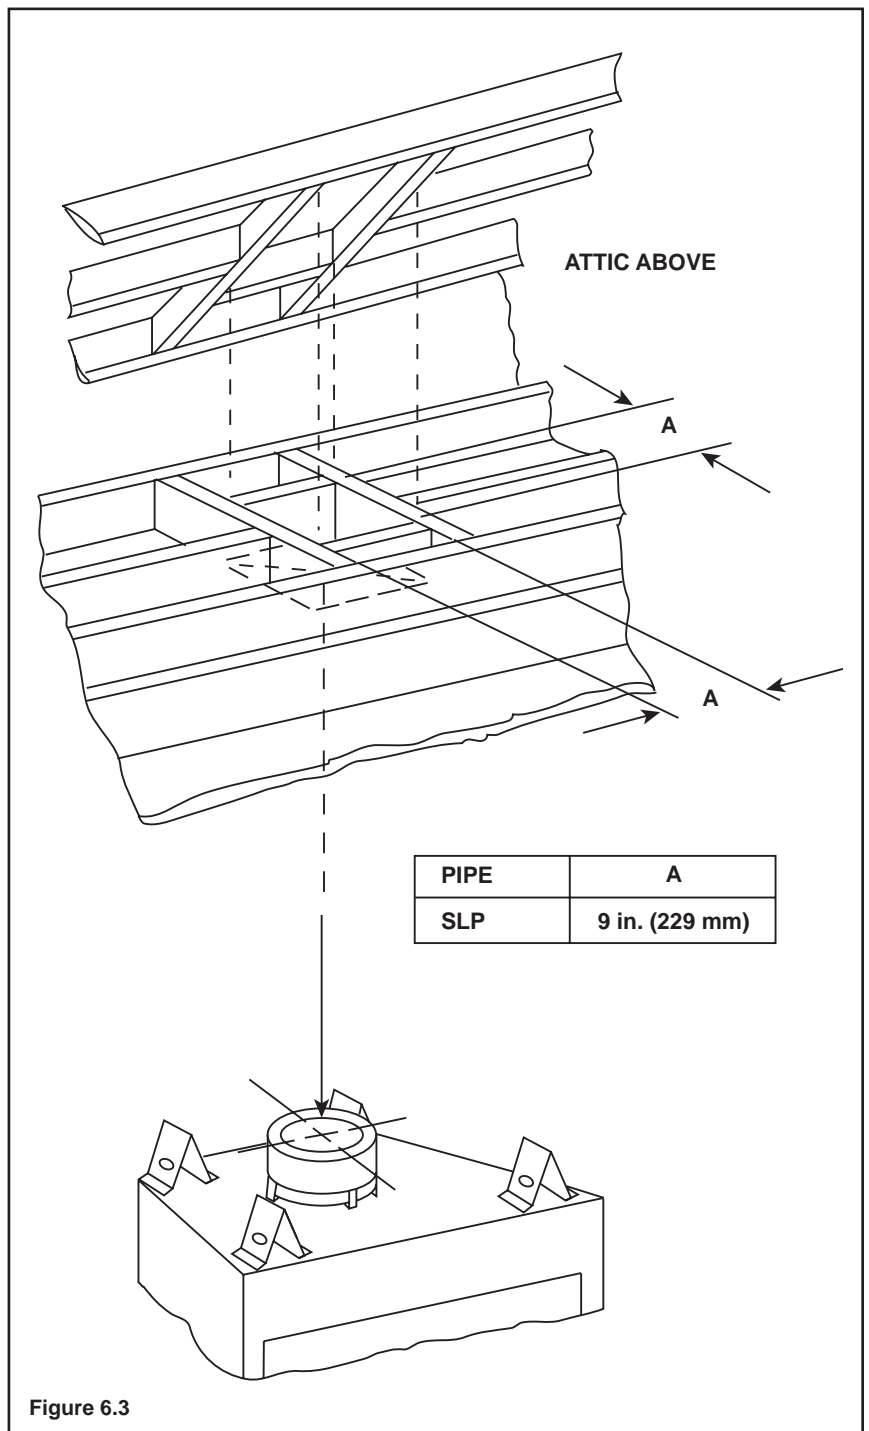

Figure 6.3
- Frame opening 9 in. x 9 in. (229 mm x 229 mm) whenever the vent penetrates a ceiling/floor (see Figure 6.3).